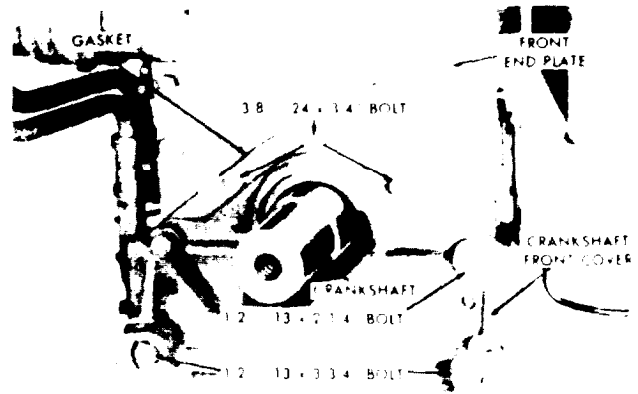

Figure 11B-96. Crankshaft Front Cover Mounting
5. Tighten the cover attaching bolts by following the tightening sequence indicated in Figure 11B-98 on page 11B-63. Follow this sequence as the bolts are